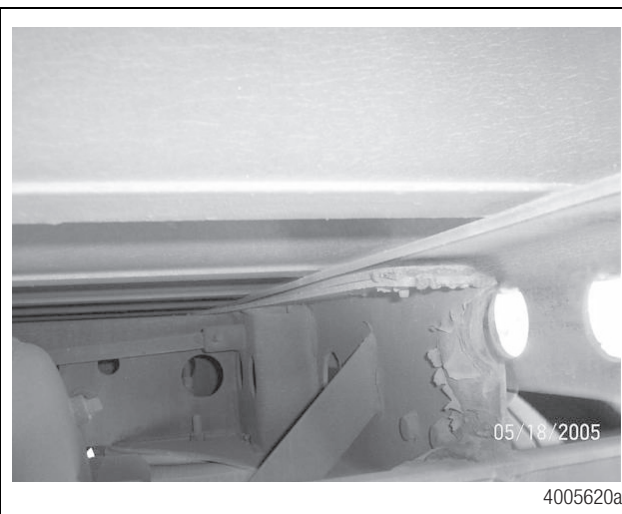

Figure 9
- **If the slider has minor damage at the rear stop bar contact point:** Refer to Level Three Repair — Minor Damage Localized at the Rear Stop Bar Contact Point No Buckle in the Slider Forward of Cross Member Four in this bulletin. Figure 9.